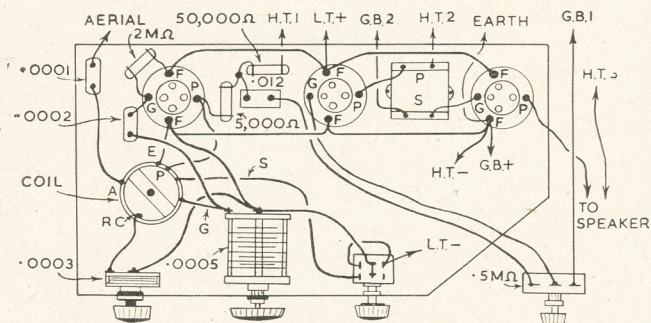
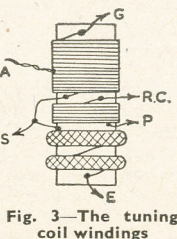

Fig. 2—A complete wiring plan
Fig. 3—The tuning coil windings
A complete wiring plan is given in Fig. 2. All the parts should be fixed securely and all connections should be well made with insulated wire. The constructor who has not previously made a receiver and wishes for proper reception from the moment of switching on should follow the diagram carefully and check afterwards to assure all leads are as indicated.
Constructors wishing to wind their own coils should follow Fig. 3. The tube is $1\frac{1}{2}$ ins. in diameter. The ends of the windings are lettered to agree with Fig. 2, and are as follows: (G) to grid condenser; (A) to aerial condenser; (S) to switch; (E) to earth (H.T. negative); (P) to detector plate; (RC) to reaction condenser. All turns must be wound in the same direction.